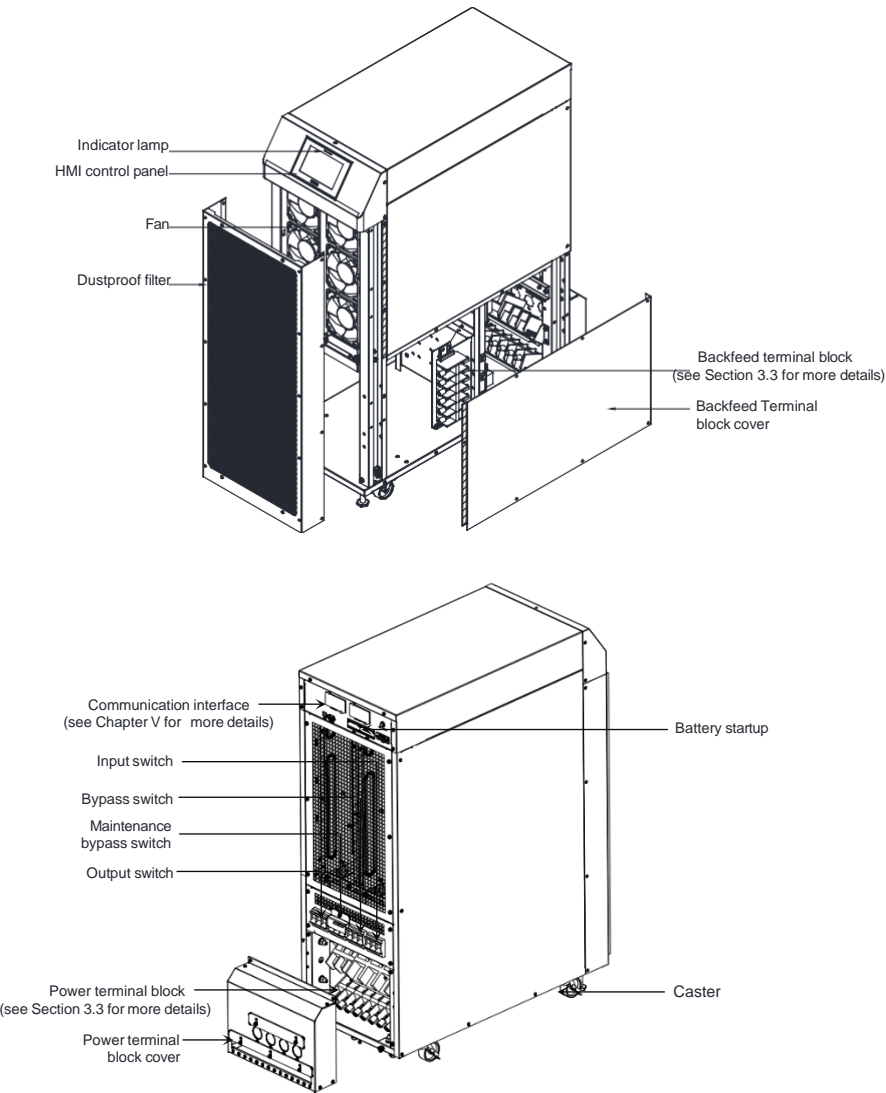

Figure 2-11: 60-80k structure diagram
2. Uninstall the right side cover plate of the UPS, refer to (Figure 2-5/Figure 2-7/Figure 2-9//Figure 2-11)